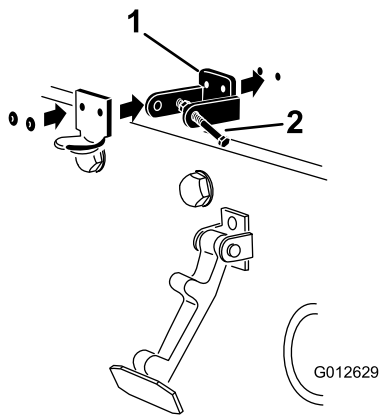

Figure 7
4. While aligning the mounting holes, position the CE lock bracket and the hood-latch bracket onto the hood (Figure 7).
6. Rivet the brackets and the washers to the hood (Figure 7).